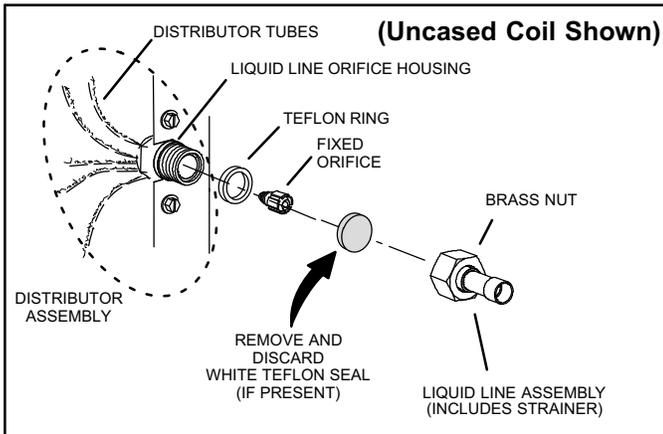

Figure 17. Typical Fixed Orifice Removal
4. Remove and discard fixed orifice, valve stem assembly if present and Teflon washer as illustrated in figure 17.